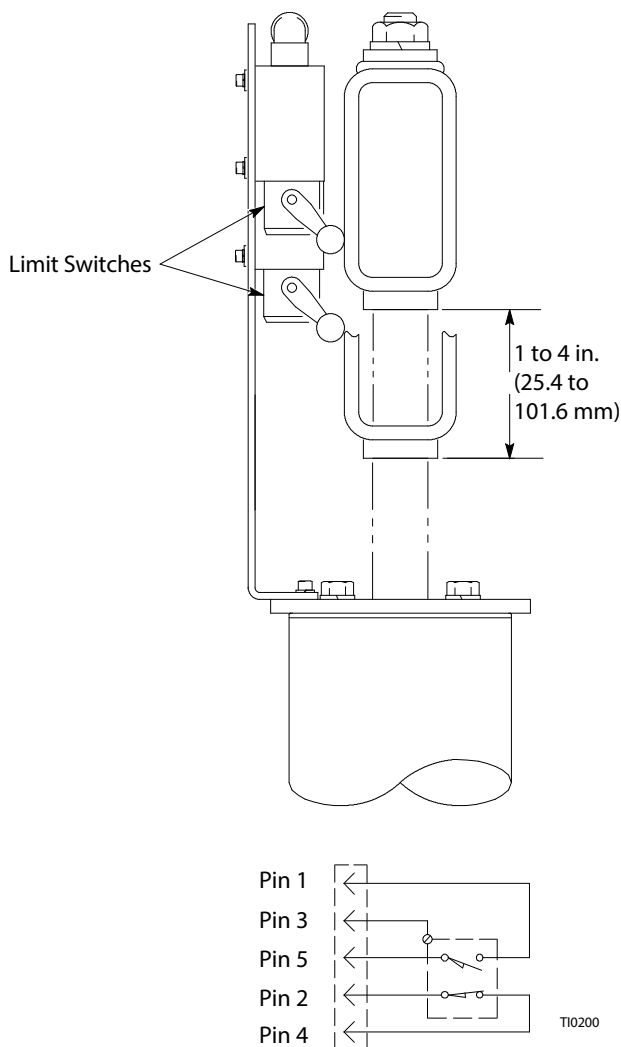

FIG. 13
- b. Verify that the Follower Plate (D) lowers to the limit set point: a level between 1 -4 in. (25.4 -101.6 mm) from the bottom of the drum.
- c. Adjust the low limit switch to activate at the level defined in step 37.b. See Fig. 13.